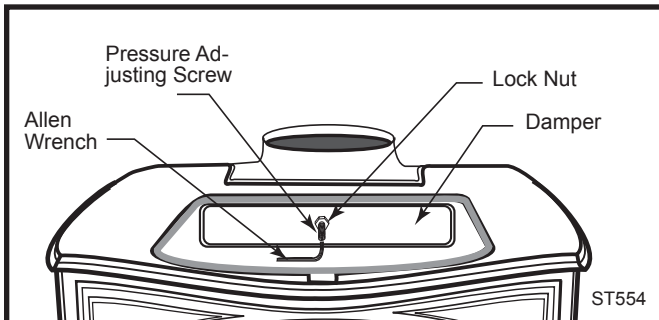

Fig. 37 Adjust the damper with the Allen wrench.
1. Remove the griddle. Loosen the lock nut at the center of the damper. (Fig. 37)